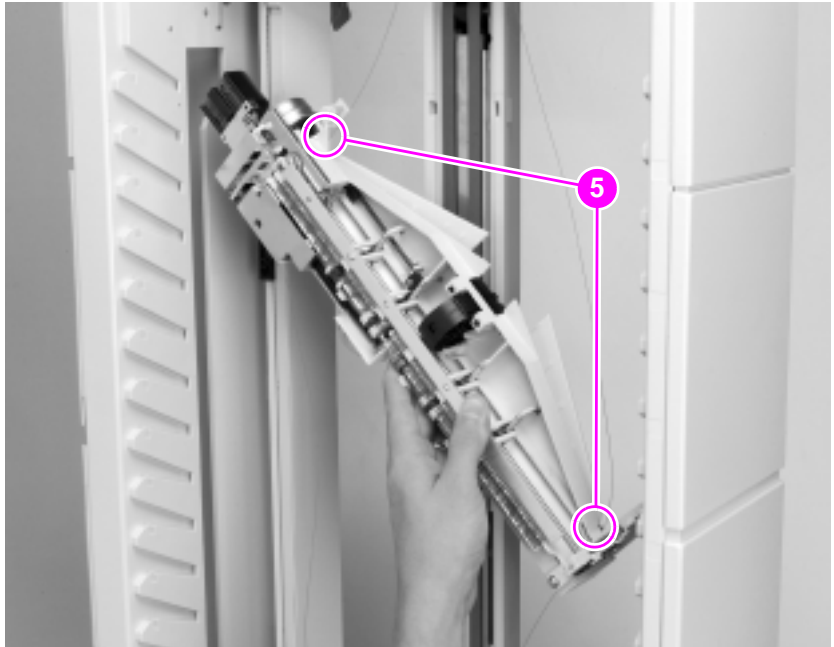

Figure 176. Delivery head assembly (4 of 4)
- 8 Rotate the assembly clockwise while guiding the back end out of its access opening (see figure 176).